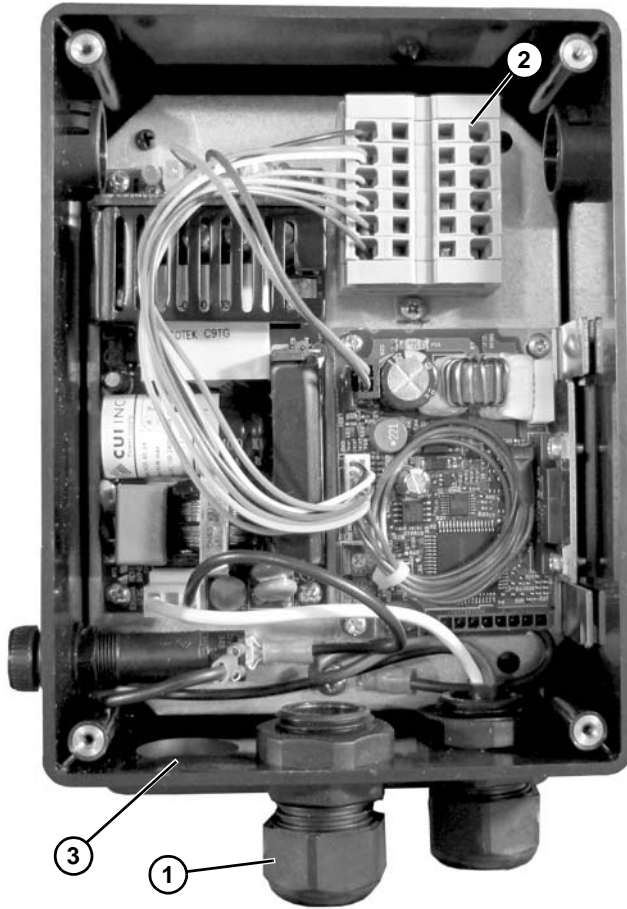

Figure 4
3. Insert multi-conductor cable into cord grip (**Figure 4, item 1**).
4. Wire START/STOP, COM, and CW/CCW to terminal (**Figure 4, item 2**).
5. Install motor cord through interface location (**Figure 4, item 3**). Refer to Motor Manual 851-748 or 851-749 for details.